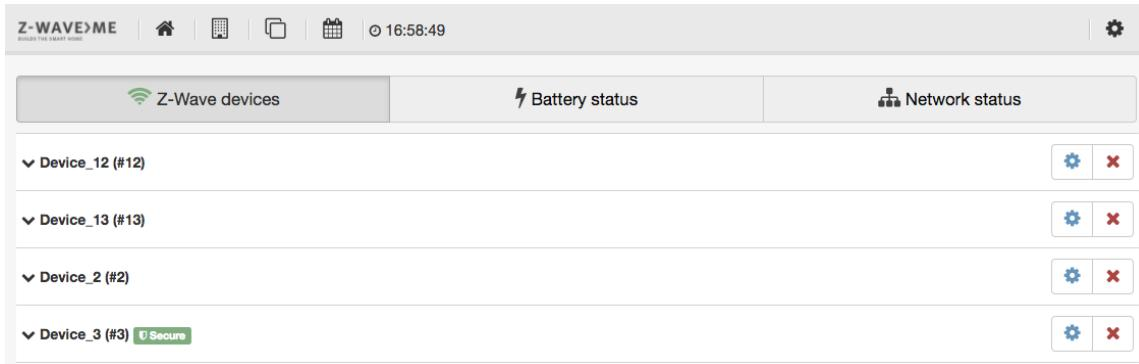
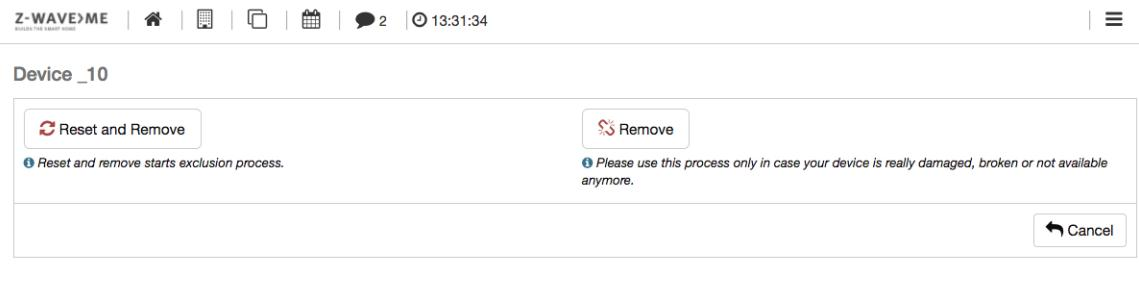

Figure 4.25: Z-Wave device overview
Figure 4.28: Z-Wave Device Reset /Exclusion
- Figure 4.25 shows a list of the physical Z-Wave devices. The **[]** button will open the very same device management dialog as described during manual post-inclusion configuration in Section 4.2.2. The **[x]** button opens a dialog to remove the device. As shown in Figure 4.28 there are two options: